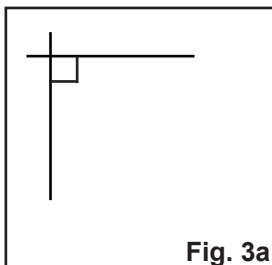
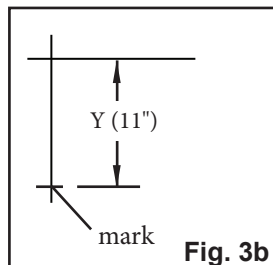
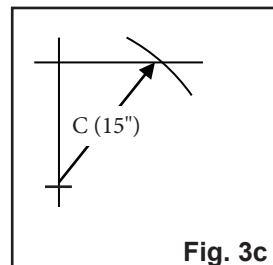
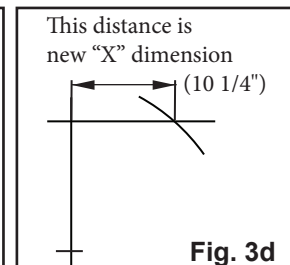

Fig. 3a
Fig. 3b
Fig. 3c
Fig. 3d
3. **Determine final dimension.** On a flat vertical surface, using a level, draw one horizontal line and one vertical line creating a right triangle (Fig 3a). Measure down from the intersection the determined “Y” dimension and mark (Fig 3b). With the tape measure starting at the modified “Y” mark, swing the tape across the “X” line and mark at the “C” dimension where it crosses the “X” line (Fig 3c). Measure from the intersection to the “C” intersection and this will be your new “X” dimension (Fig. 3d).